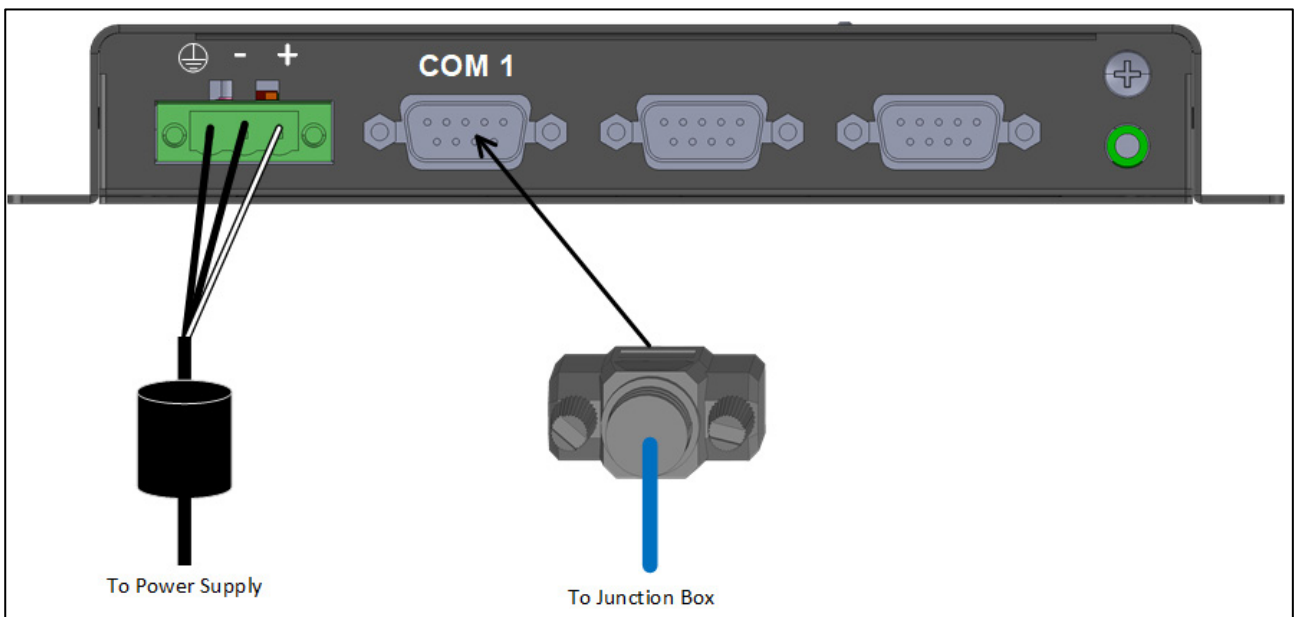

Figure 12: Insert 9 Pin Connector
1. Insert the Junction Box 9-Pin Connector into COM1 (Figure 12).